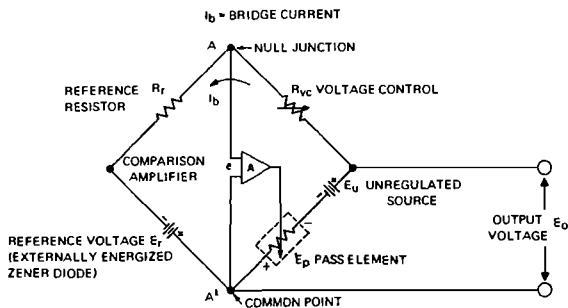

FIG. 3-3 KEPKO POWER SUPPLY AND COMPARISON BRIDGE CIRCUIT
3-8 INTRODUCTION TO REMOTE PROGRAMMING (Refer to FIG. 3-3)
3-9 A few general remarks may be in order to familiarize the user of this equipment with the terminology and basic equations pertaining to remote programming of the Kepco PCX and PCX-MAT Power Supplies. Electrically, the power supply consists of the unregulated DC source (E_U) the pass element (E_P), the DC error amplifier (A) and a comparison circuit which resembles a four-arm electrical bridge. (Refer to FIG. 3-3). The elements of the bridge are arranged to produce a virtual zero at the amplifier input when the bridge circuit is at balance ($V_{AA}=0$). Any tendency for the output voltage to change in relation to the reference voltage (E_R) creates an error signal which, by means of negative feedback and the amplifier, tends to correct the output voltage towards restoration of bridge balance.